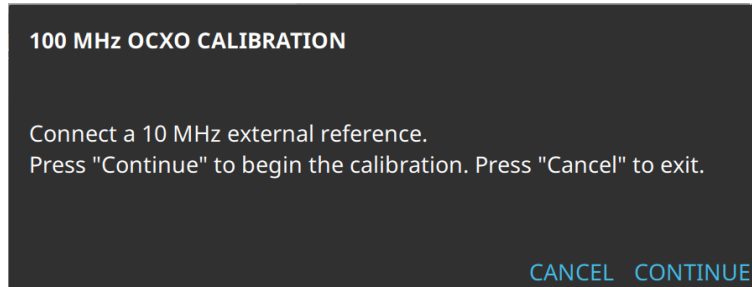

Figure 3-80. 100 MHz Calibration Dialog
2. Press the START CALIBRATION button to display the dialog shown in Figure 3-80.